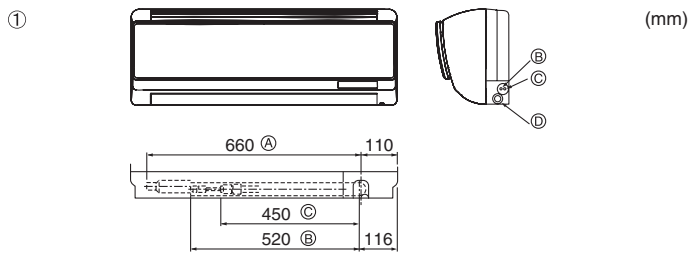

Fig. 4-2
- ① Position of refrigerant and drain piping (Fig. 4-2)
- (A) Total length of flexible hose
- (B) Liquid pipe
- (C) Gas pipe
- (D) Drain hose